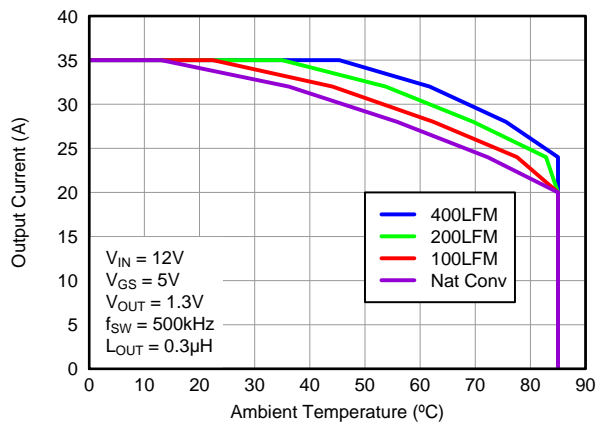
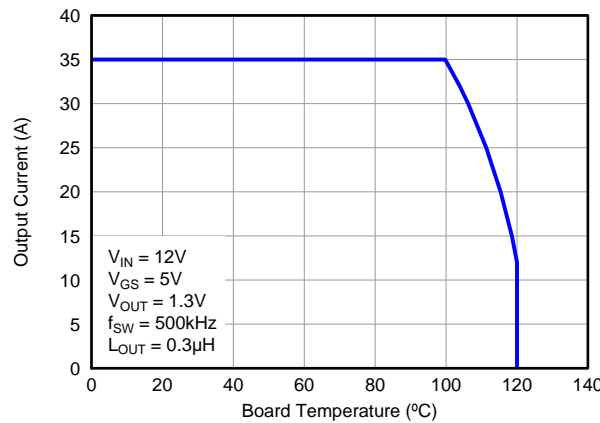

Figure 3. Safe Operating Area – PCB Vertical Mount(1)
Figure 5. Typical Safe Operating Area(1)
The SOA curves in the CSD87351ZQ5D data sheet provides guidance on the temperature boundaries within an operating system by incorporating the thermal resistance and system power loss. Figure 3 to Figure 5 outline the temperature and airflow conditions required for a given load current. The area under the curve dictates the safe operating area. All the curves are based on measurements made on a PCB design with dimensions of 4" (W) x 3.5" (L) x 0.062" (T) and 6 copper layers of 1 oz. copper thickness